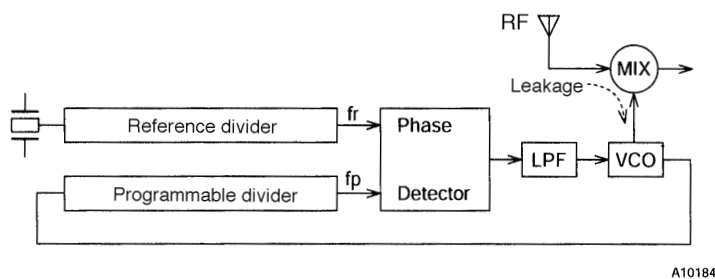
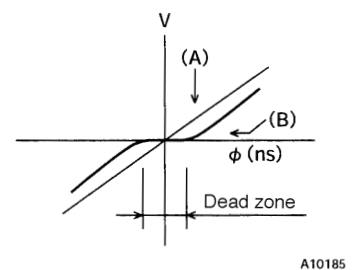

Figure 1
Figure 2
As shown in figure 1, the phase comparator compares a reference frequency (f_r) with f_p . As shown in figure 2, the phase comparator's characteristics consist of an output voltage (V) that is proportional to the phase difference ϕ . However, due to internal circuit delay and other factors, an actual circuit has a region (the dead zone, B) where the circuit cannot actually compare the phases. To implement a receiver with a high S/N ratio, it is desirable that this region be as small as possible. However, it is often desirable to have the dead zone be slightly wider in popularly-priced models. This is because in certain cases, such as when there is a strong RF input, popularly-priced models can suffer from mixer to VCO RF leakage that modulates the VCO. When the dead zone is small, the circuit outputs signals to correct this modulation and this output further modulates the VCO. This further modulation may then generate beats and the RF signal.